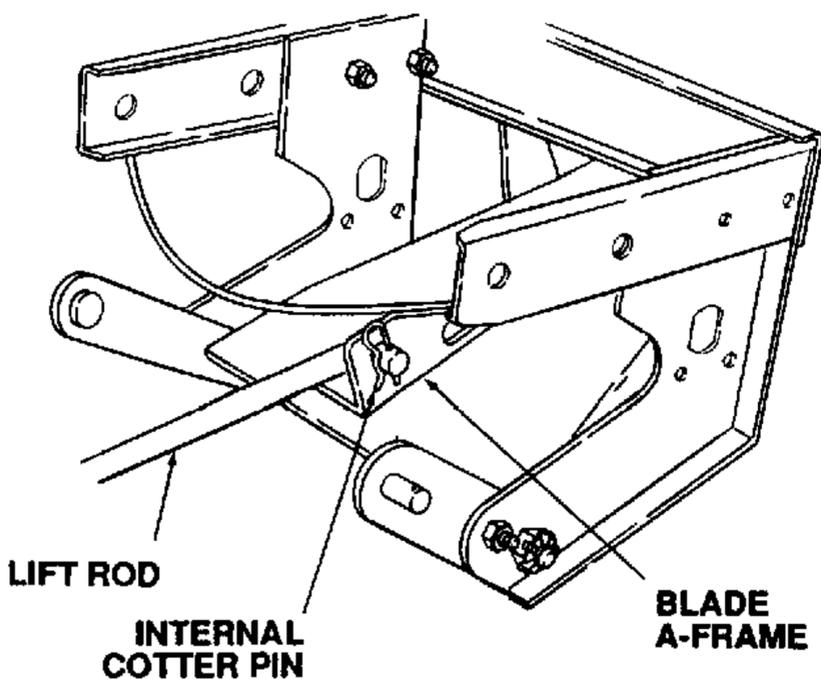

Figure 7-19. Attaching Lift Rod To A-frame.
When attaching the lift rod assembly to the blade's A-frame assembly, the rod must be inserted from left to right as shown in Figure 7-19.
9. Install the lift rod (4) in the front lift bracket of the A-frame assembly and secure with an internal cotter pin (13). See Figure 7-19.